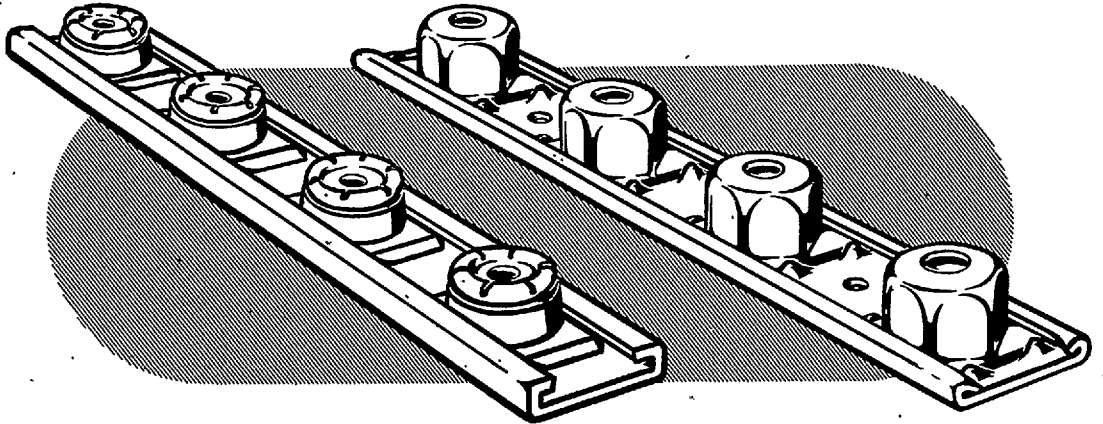

Fig. 8.—Floating strip
11. Instead of attaching single nuts to the component, it is sometimes more convenient to use strip, on which the nuts are mounted in a row at a fixed distance apart. As shown in fig. 8, the nuts are fitted to plates which are assembled in a strip of sheet metal. The nuts have a slight amount of free movement to allow for a small margin of error.